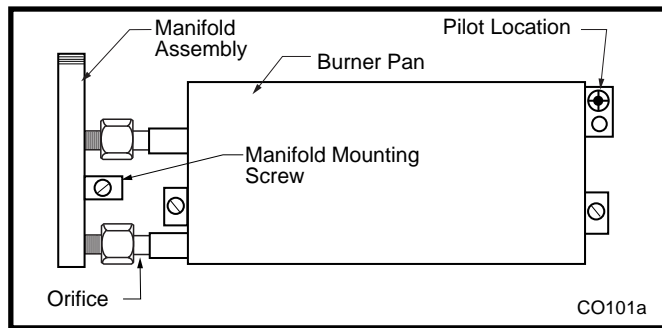

Fig. 66 Remove manifold assembly.
5. Remove manifold mounting screw. (Fig. 66)